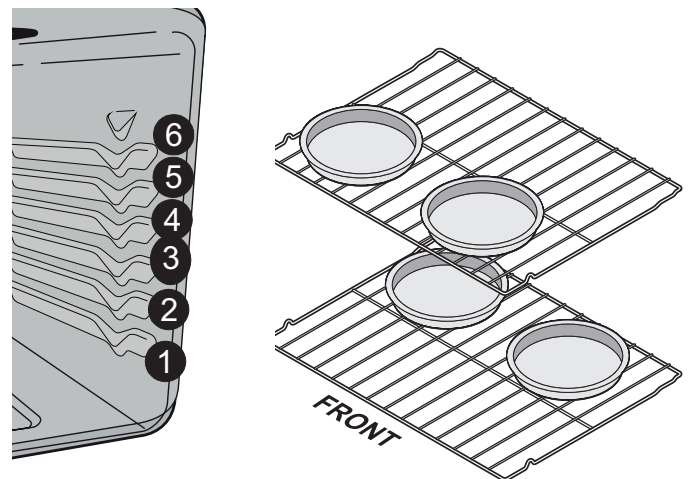

Figure 9: Rack positions and pan placement
2. Press **Self Clean** to toggle between 6-Hour OFF or Stay On feature (Figure 9).
- For best results when baking layer cakes using two oven racks, place racks in positions 1 (Flat) and 4 (Glide) and place pans as shown in Figure 9.